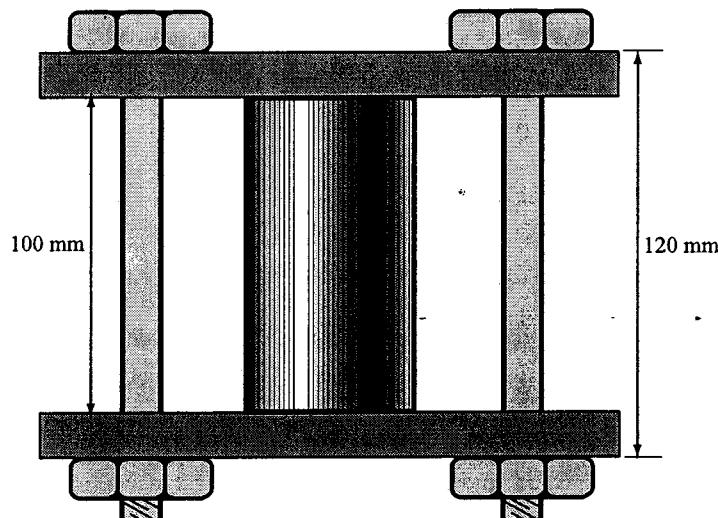

Figure Q1
- Q1.** The 50 mm diameter cylinder is made of Am 1004-T61 magnesium and is placed in the clamp when the temperature is $T_1 = 30^\circ\text{C}$ as shown in the Figure Q1. The two 304 stainless steel carriage bolts of the clamp each have a diameter of 10 mm with 20 threads per 20 mm, and they hold the cylinder snug with negligible force against the rigid jaws. In answering the followings, the explanation of whether it is statically determinate problem, the equations of equilibrium and compatibility, the free body diagram and the geometry (diagram) of deformation must be included.